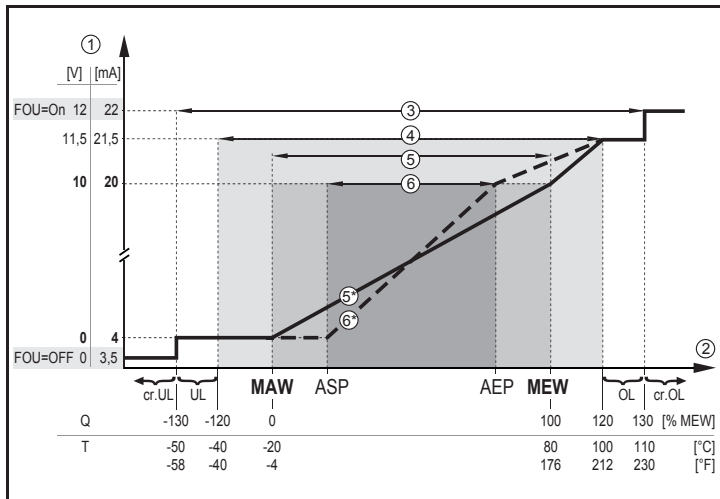

Figure 1: Characteristics of the analog output according to the standard IEC 60947-5-7.
- If the measured value is outside the measuring range or in the event of an internal error, the current or voltage signals indicated in Figure 1 are provided.